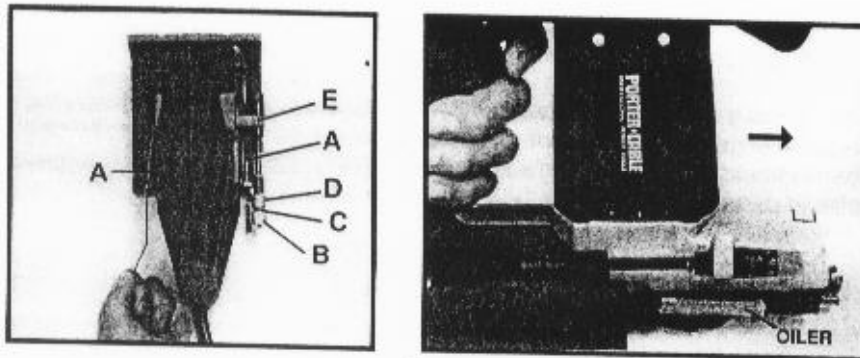

Fig.16
3. Use the spring removal tool furnished with machine to unhook the rear ends of the two return springs (A) Fig. 16.
4. Note distance of knob (D) Fig. 16, to surface (E) Fig. 16. (Reset to this dimension when reassembling). Remove knob (B) Fig. 16, washer (C) Fig. 16, and knob (D) Fig. 16.
5. Slide motor unit forward out of base (see Fig. 16).
NOTE: A felt oiler (see Fig. 16) is located in each side of the gear housing cover. Brush clean and apply a few drops of light oil to each oiler before reassembly.